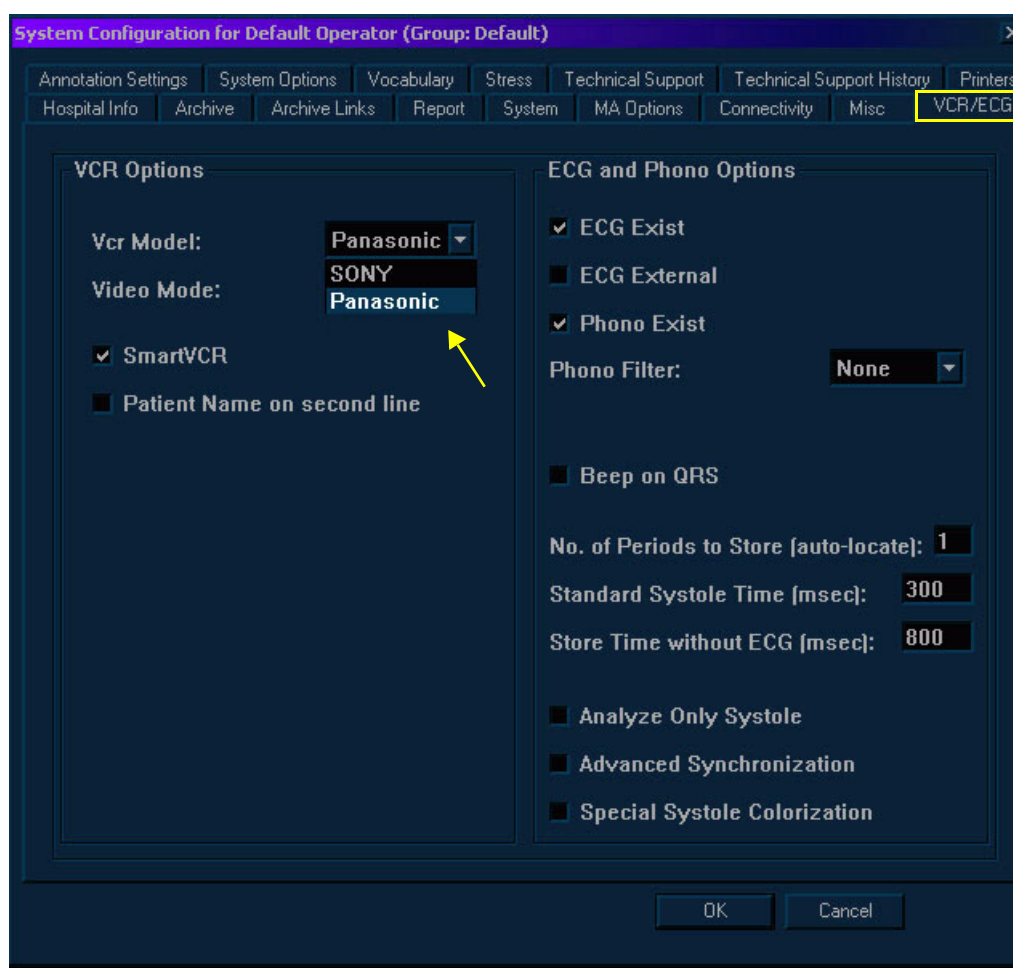

Figure 8-127 Panasonic VCR Option
- 12.) Under System Configuration, VCR/ECG Tab, select the Panasonic VCR option, as shown in Figure 8-127 below. For more information, see .